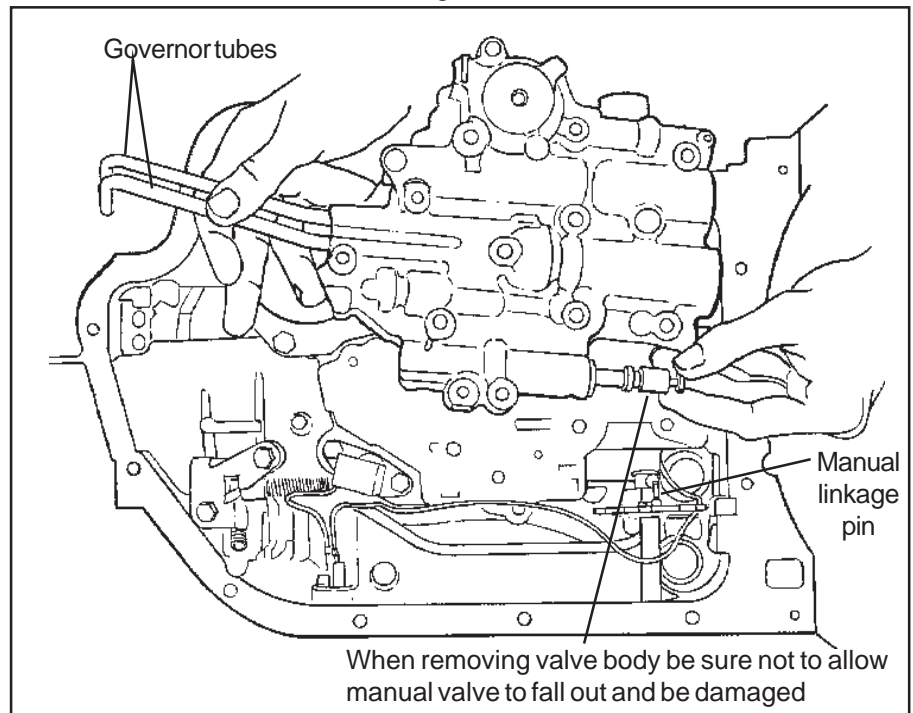
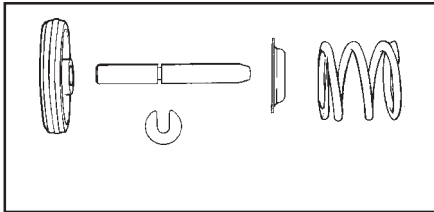

Figure 5
Figure 6
disconnect the spark control switch wire if present. Hold the valve body in place and remove the last bolt. Lower the valve body while at the same time pulling straight down on the governor tubes (See Fig. 5). Place the valve body in the oil pan to avoid contamination. **NOTE:** The front servo may fall out of the case, if it does see Figure 6 for reassembly order. Use grease or petroleum jelly to hold the servo compo-
**STEP 12.** Insert the governor tubes into the valve body (**See Fig. 5**). Lay the lower valve body gasket (has "VB" punched in it) into position on valve body (use grease or petroleum jelly to hold it in place). Make sure the manual valve is in its bore. Install valve body onto transmission guiding the governor tubes into their holes at the rear of case. Push up on valve body and tubes and engage the manual valve on the internal shift linkage pin. Install one bolt to hold valve body in place.